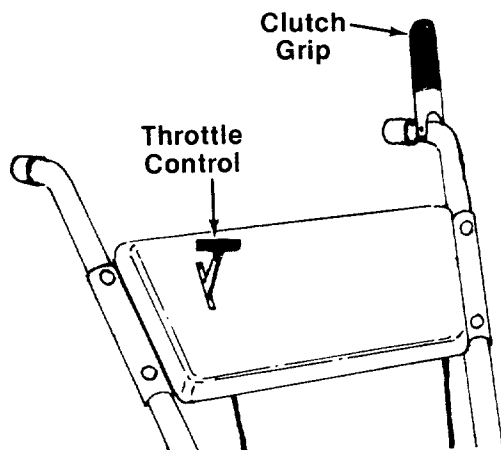

FIGURE 17.
1. Move the throttle control lever forward to "FAST" position. See figure 17.
Move control lever to "STOP" position. See figure 17.
To engage the tines, squeeze the clutch grip. To stop the tines, release the clutch grip. See figure 17.